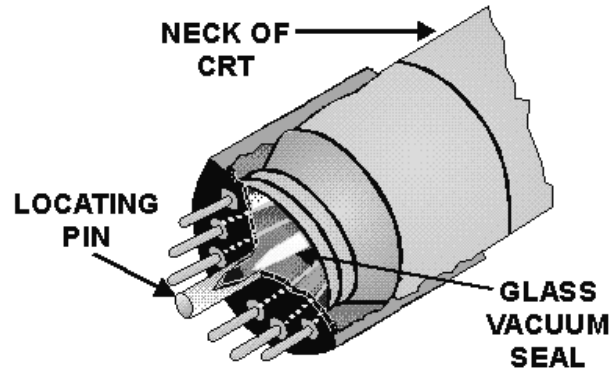

Figure 2-29.—Cathode-ray tube base structure.
- Carefully break off the plastic locating pin from the base (fig. 2-29) by crushing the locating pin with a pair of pliers.